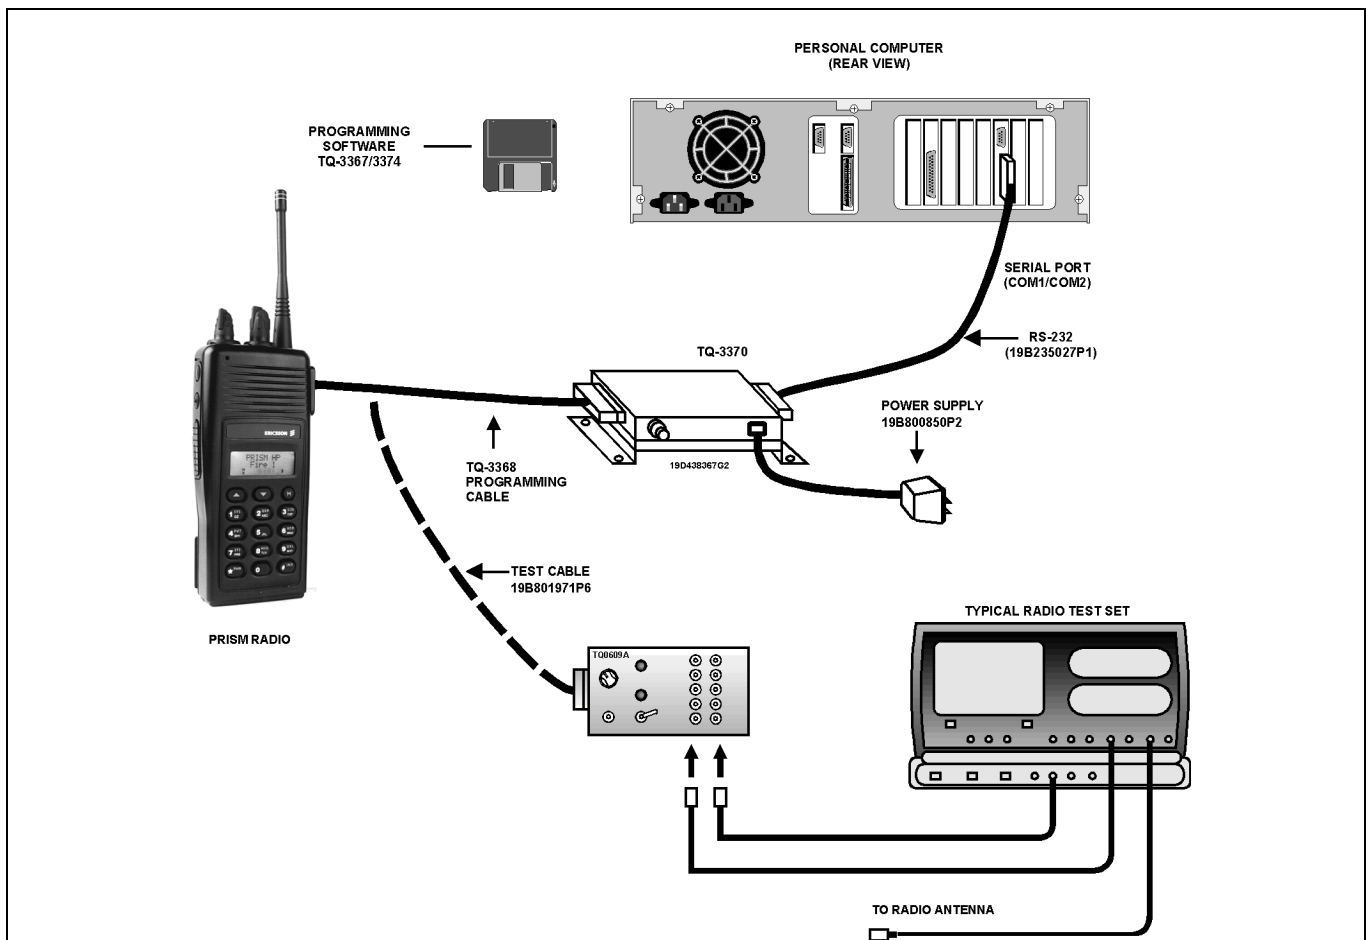

Figure 7 - Programming And Test Equipment Setup
The EDACS-3 PC Programming software communicates with the radio through the TQ-3370 programming box (item 2 in the equipment list). Figure 7 provides a diagram of the Equipment Setup required to PC Program the radio. Refer to the PC Programming manual (TQ-3374) for detailed software operating instructions.
The “FLASH” software is the current version of the Prism HP radio operating software. When changes and enhancements are made to the operating code, the new operating code can be “FLASHED” to the radio, upgrading the operating code without any hardware changes to the radio. Flash software is simply a computer file which is read from a disk and downloaded to the radio using the EDACS-3 PC Programmer. The Equipment Setup shown in Figure 7 is same as for Personality Programming. Refer to the PC Programming manual (TQ-3374) for detailed software operating instructions.